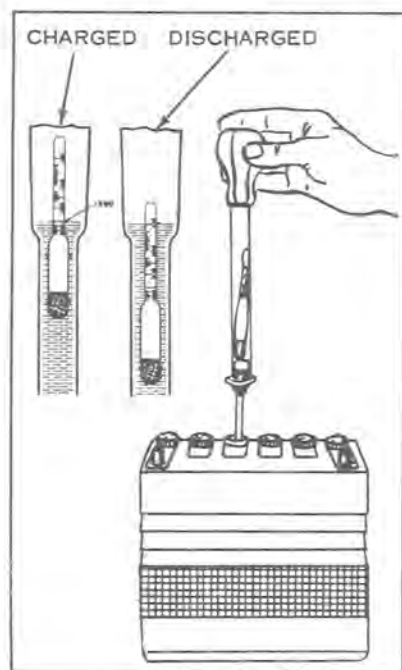

Figure 7-37
4. Keep the battery nearly fully charged at all times. Check the state of charge at frequent intervals by making specific gravity readings with a battery hydrometer (see Figure 7-37). Note that a hydrometer reading is not accurate if water has been added recently, due to the fact that the water may not be mixed with the electrolyte.